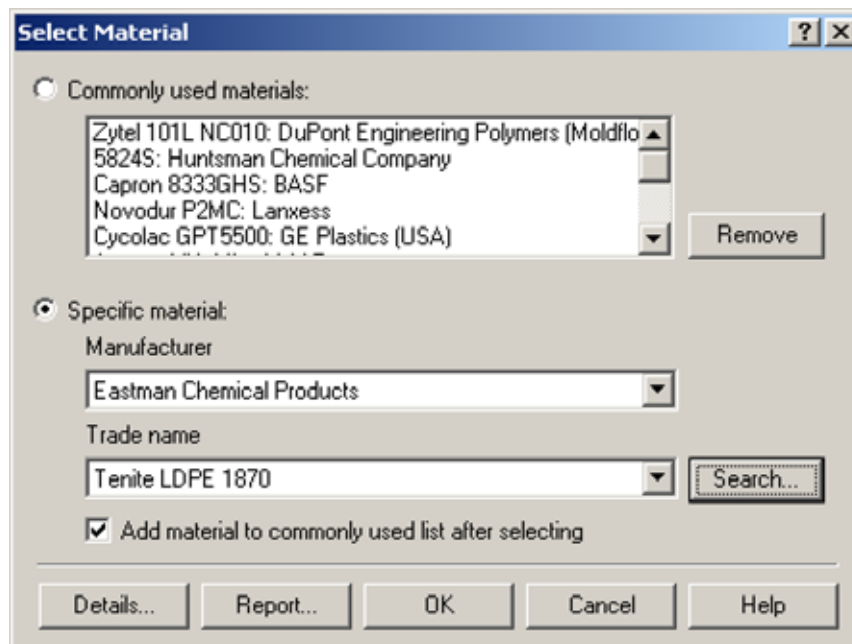

Figure 85: Find Tenite LDPE 1870
- Results should look like Figure 85.